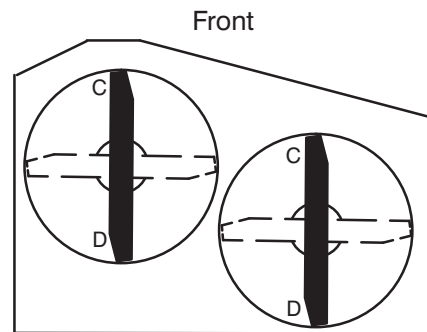
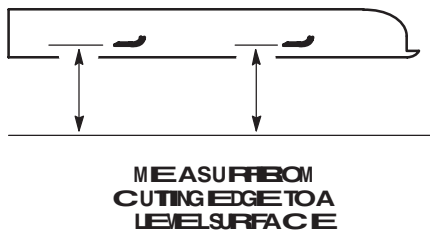

Figure 50
Figure 51
- Position one blade front-to-rear (Fig. 50). Measure at “C” and “D” locations (Fig. 50) from a level surface to the cutting edge of the blade tips (Fig. 51).
4. Position the blades front-to-rear (Fig. 50). Measure at "C" and "D" locations (Fig. 50) from a level surface to the cutting edge of the blades (Fig. 51).